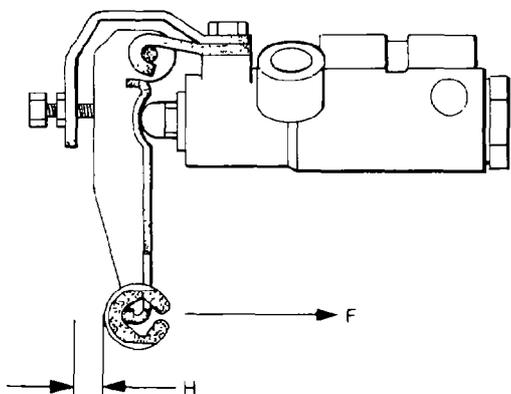

Figure 92 ALB Valve, Setting Up
2. Movement of the lever (28) in direction F (see Fig 92) closes the valve.
- h. Measure the stroke H (see Fig 92); limits are $3.2\text{ mm} \pm 0.5\text{ mm}$; open valve H1.